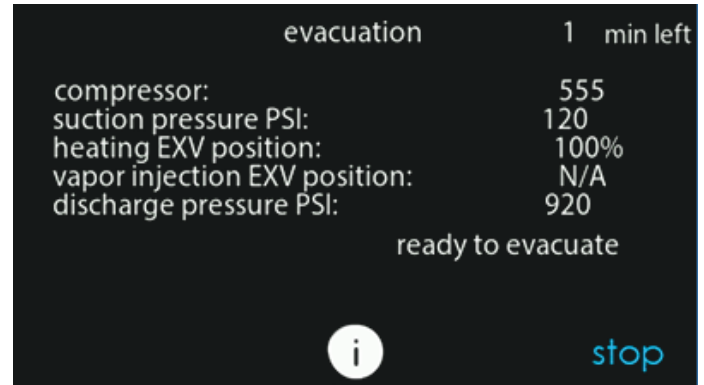

Fig. 29 – Evacuation Status Screen
5. Begin evacuation or refrigerant recovery as required for the procedure after Infinity® System Control indicates the EXV is open. Power may be removed from heat pump after the Infinity® System Control indicates “READY TO EVACUATE.” See Fig. 29.